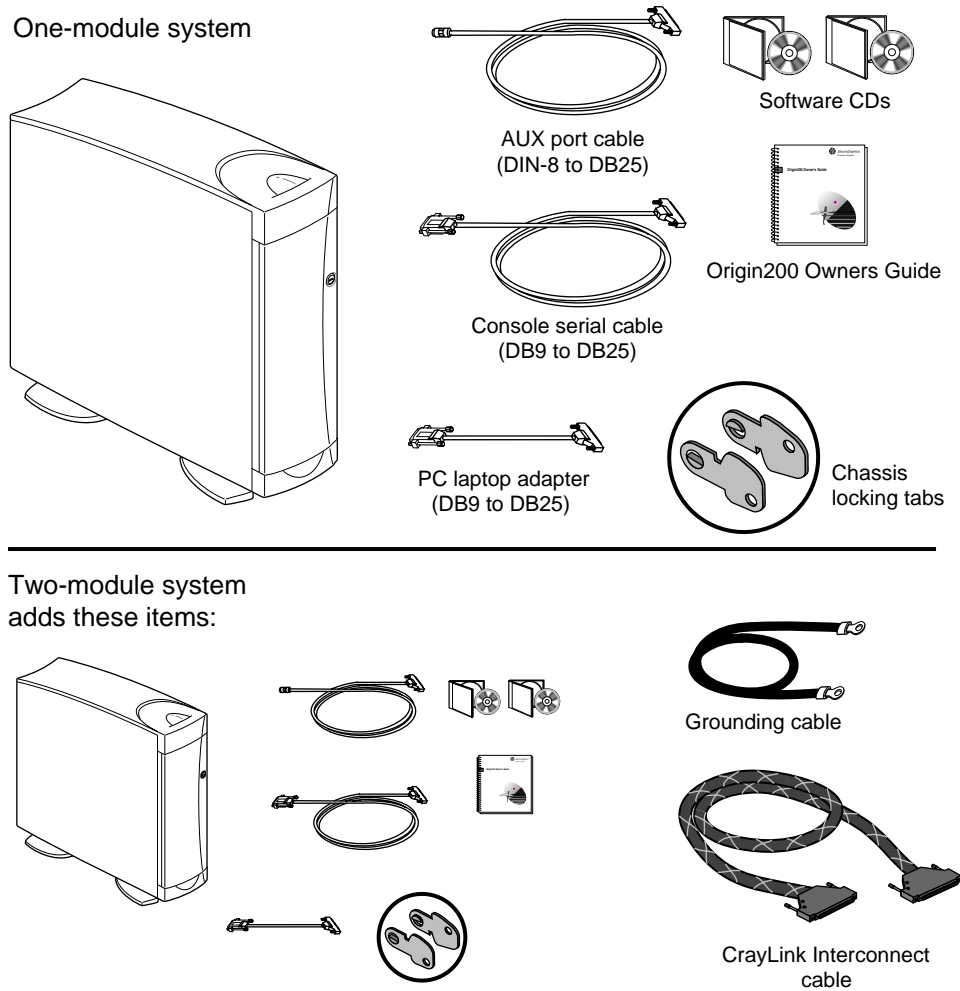
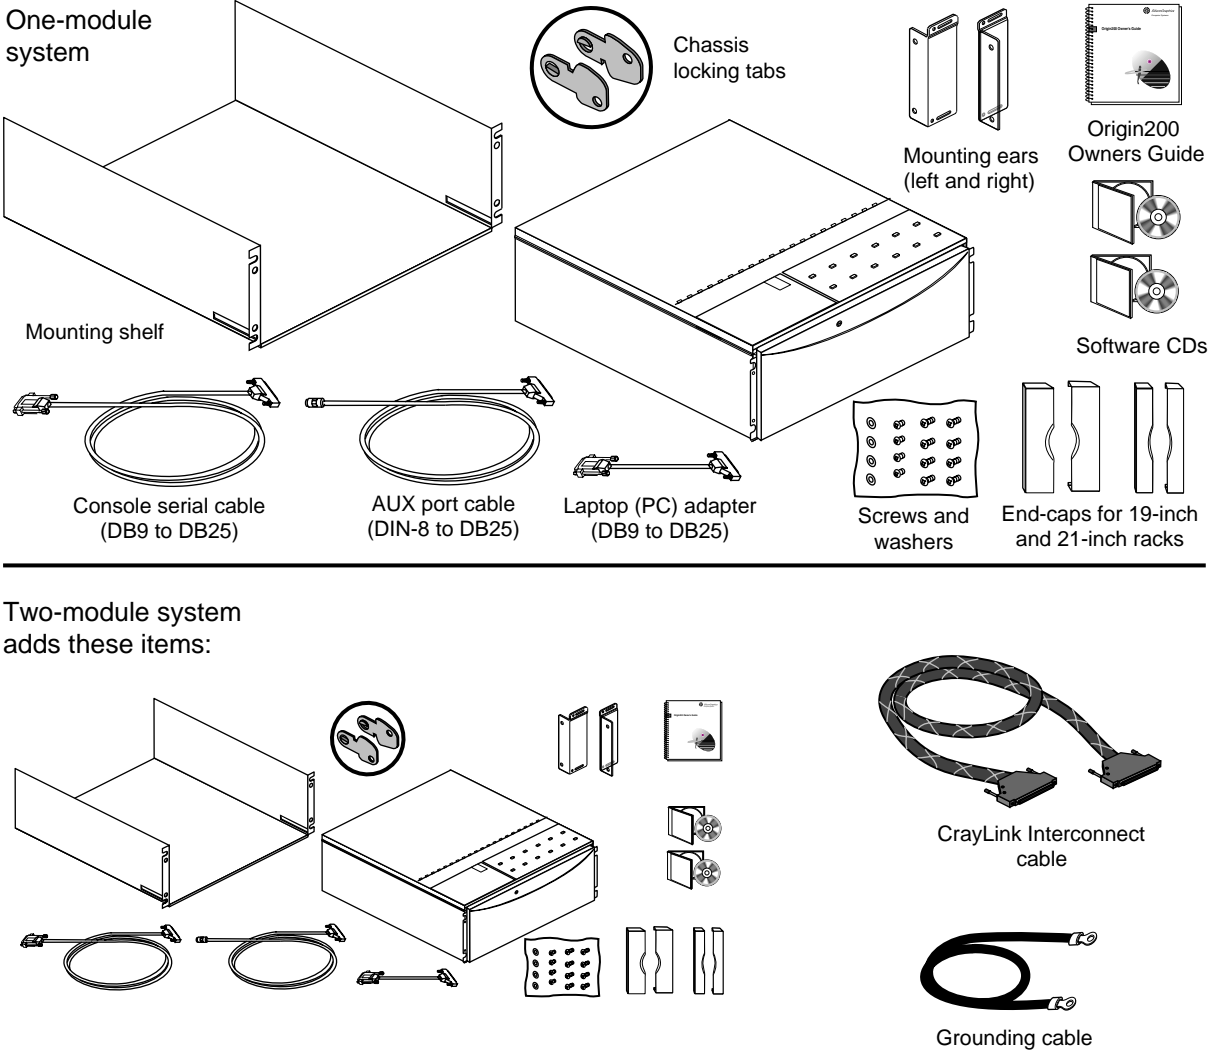

Figure 2-3 Items Included With the Origin200 Server, Tower Configuration
Figure 2-4 Basic Items Included With the Origin200 Server, Rackmountable Configuration
Figure 2-3 shows the items packed with a basic Origin200 server in a tower configuration.
Figure 2-4 shows the various items shipped with an Origin200 server in a rackmountable configuration.
2. Make sure you have all the parts. See Figure 2-3 and Figure 2-4.